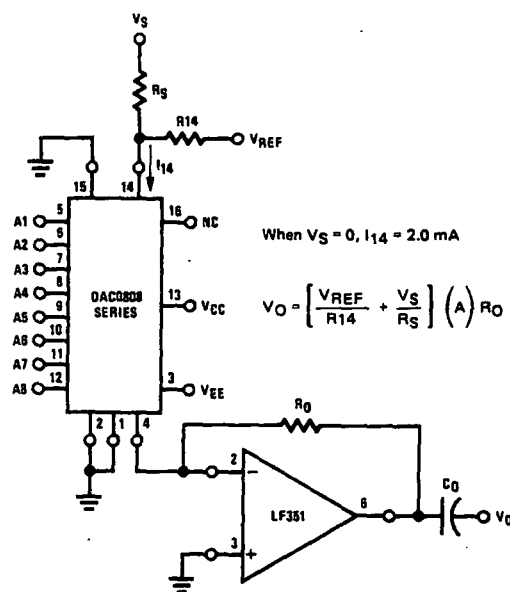

FIGURE 9. Programmable Gain Amplifier or Digital Attenuator Circuit (Note 7)
**Curve C:** Large and Small Signal Bandwidth Method of Figure 9 (no op amp,  $R_L = 50\Omega, R_S = 50\Omega, V_{REF} = 2V, V_S = 100 mV_{p-p}$  centered at 0V).